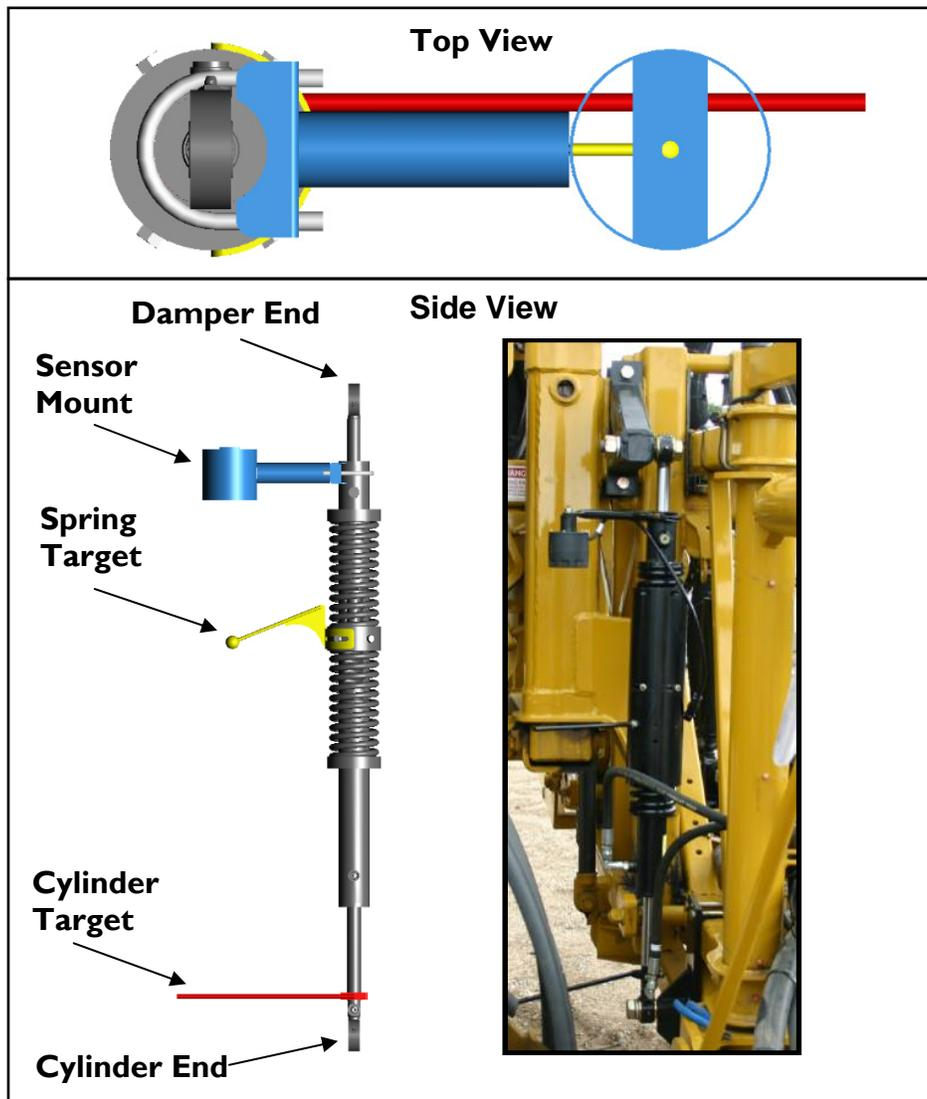

Figure 28: Linear Roll Cylinder Target Alignment
4. Mount the cylinder target to the cylinder end. Align the cylinder target so that it is 5/8" to the side of the spring target (**Figure 28**).